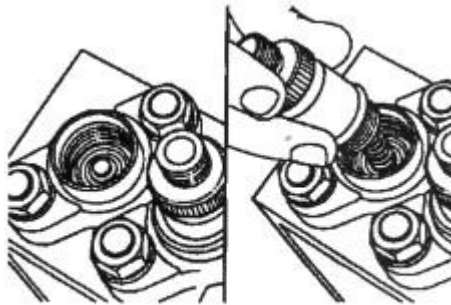

Figure 18
19. Install the delivery valve holder assembly taking care not to displace the delivery valve spring, fill piece, or any shims (Figure 18).
NOTE: The delivery holder **must** be assembled as shown in Fig 18.